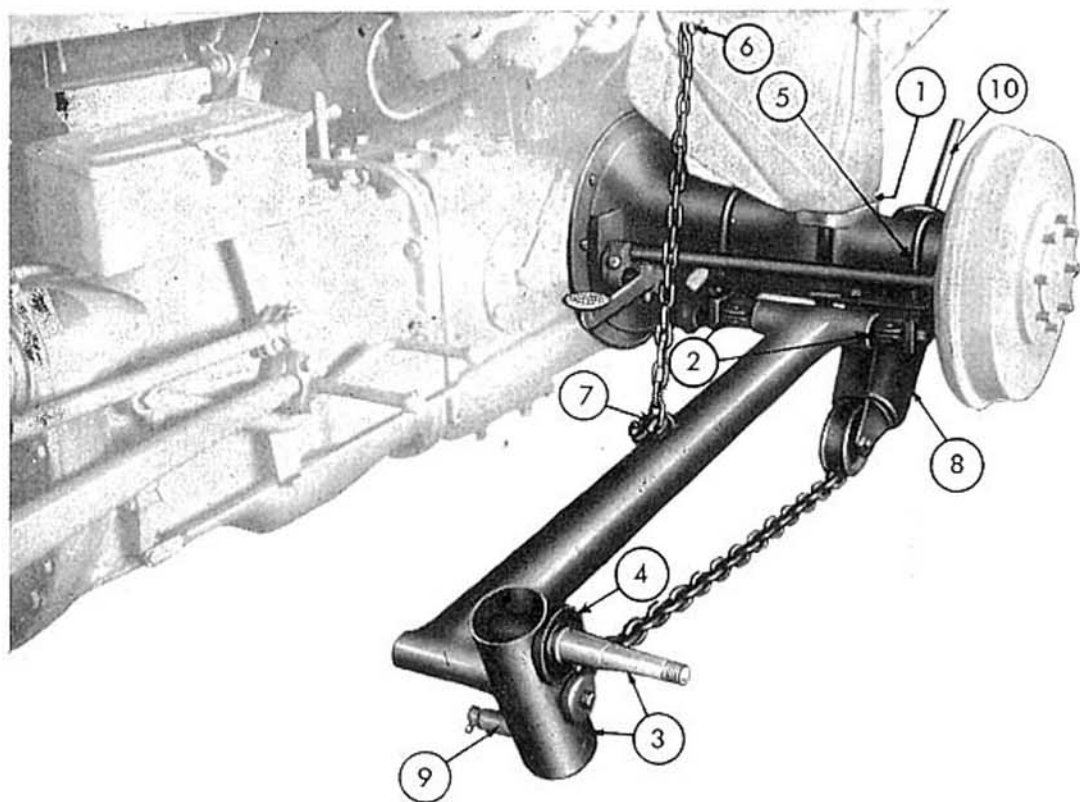
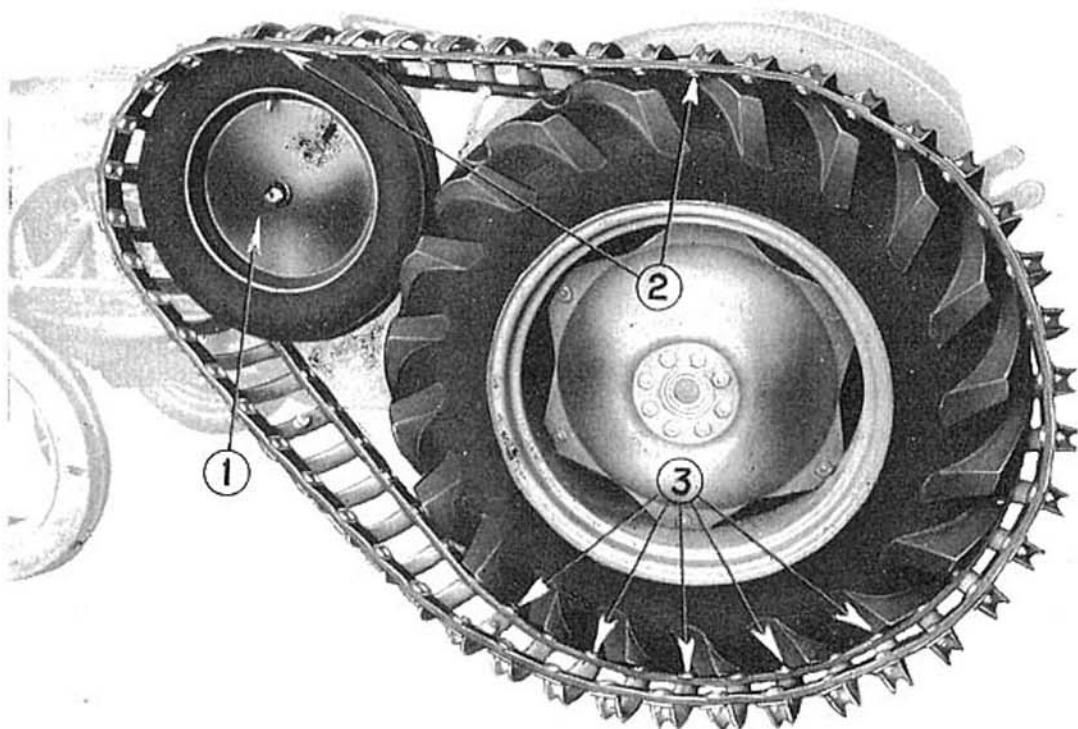

Figure 3
Figure 4
- 2 — Remove fender bolts and install fender shim, A-306, (Fig. 3, Ref. 1), between fender and differential housing. Shim consists of a steel strip with two holes; one edge is rolled over a rod to increase thickness. This edge should be on the outside so that it will incline the fender inwards. Install housing bracket assembly using fender bolts and tighten slightly. If fender bolts are too short, replace by longer ones.
- 3 — Adjust T.T.A. to tractor tread width using the adjuster split bushings B-309, (Fig. 3, Ref. 3), one on each side of the body spindle cross tube for 56"; both bushings outside for 52" and both inside for 60" tread width.
- 4 — Install wheel on rocker and spindle assembly C-319 (Fig. 3, Ref. 3) and give proper adjustment to wheel bearings. Before proceeding with this installation, check mud excluder and make sure mud excluder felt is correctly placed and greased. (Fig. 3, Ref. 4).
- 6 — Install differential U-bolts (Fig. 3, Ref. 5) and tighten firmly. Care must be taken not to alter alignment made in previous operations.
- 7 — A chain is welded to the middle upper part of the body spindle. Bolt other end of this chain (Fig. 3, Ref. 6) to bolt holding fender to fender bracket. Remove top bolt on front part of fender bracket, and replace with bolt supplied with T.T.A. Install first nut and fasten fender to fender bracket firmly. Place the end of the chain on bolt and tighten second nut firmly.
- (a) Lift idler wheel until it is level with top of the rear tire (Fig. 4, Ref. 1). Hook chain on body spindle using hook provided for this purpose. This hook is welded to body spindle along with the end of the chain (Fig. 3, Ref. 7).
(c) Pass track over idler wheel and over rear tire (Fig. 4, Ref. 2). Make sure track is well set on the tire so that belts are well adjusted to the outside of the tire lugs. On 11" tires, the track fits tightly and should be secured in place, lug by lug, starting from top of tire and working down to bottom. This last part of the track can be put on by standing on the track and using your weight to slip it underneath the tire. (Fig. 4, Ref. 3).
- 9 — Install spring holder bracket C-329 on housing bracket (Fig. 3, Ref. 8). This spring holder is hooked on to the rear of housing bracket, and supporting brace is bolted to front part in holes provided for the purpose. With tractors adjusted at tread width of 52", supporting brace is bolted to fender bolts. For 56" and 60", use center and outside hole respectively on front part of the housing bracket. Bolt and nut A-330 are provided for this purpose.
- 10 — Set the spring in spring holder. Place compression disc in adjusting screw, and install adjusting screw and tube, giving a few turns. Grease should be inserted in the tube. Run chain — the end with bushings — through spring underneath pulley and install bushing at end of chain to shaft of rocker and spindle assembly. (Fig. 3, Ref. 9). Using starting crank, pry idler wheel forward to facilitate installation of chain bushing on to rocker shaft.
- 11 — Make sure chain does not become twisted during following operation: Turn adjusting screw and tube (Fig. 3, Ref. 10) until compression spring is compressed to a length of $11\frac{1}{2}$ inches. This will give proper adjustment to track and proper ground pressure to idler wheel. When working on hard ground, pressure may be released lightly whereas it can be increased on soft ground. Check this adjustment occasionally.